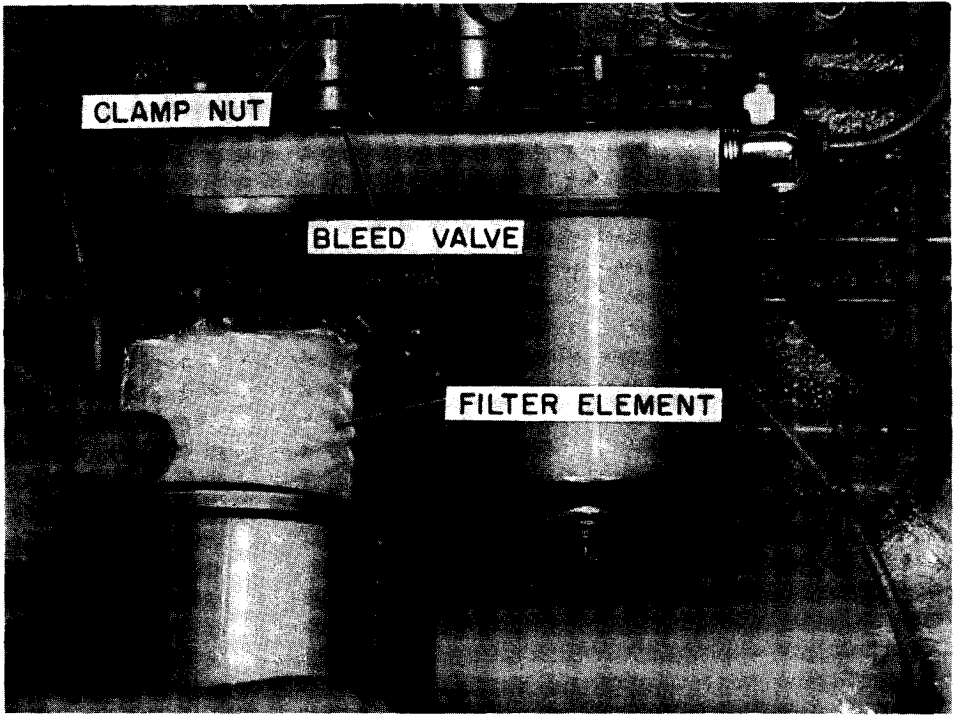

Figure 62. Removing Filter Element for Replacement
3. Loosen the filter clamp nut on the filter cover until the body can be lowered away from the cover, Figure 62.
4. Lift the contaminated element out of the body and discard it, Figure 62.